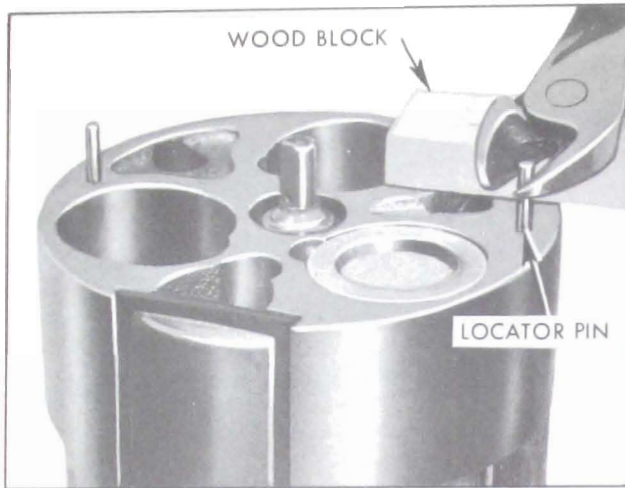

Figure 11-120—Removing Locator Pin
8. If necessary to replace a locator pin, use suitable pliers to remove pin, using care not to damage surface of cylinder. See Figure 11-120. Install new pin, carefully tapping it into place.